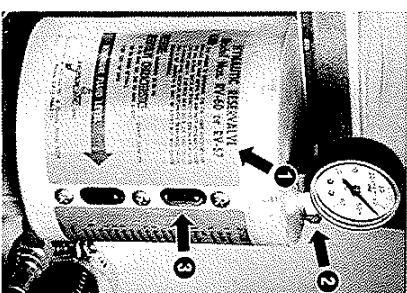

Figure 19
NOTE: For the correct type of fluid read the instructions on the canister (1). See figure 19.
1. The pressure release valve is above the fill nut (2). See figure 19. Press the button to release the pressure.
3. Pour the hydraulic fluid through the fill hole until the fluid reaches the halfway mark in the top sight gauge (3). See figure 19.